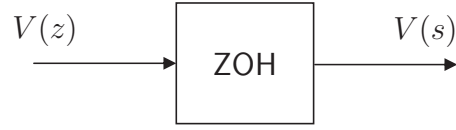

Figure 1: From discrete to continuous
Use the block shown in Fig. 1 to go from $V(z)$ to $V(s)$. Equations (7), (8) and (9) are implemented in LoadSim block which is readily available to you.